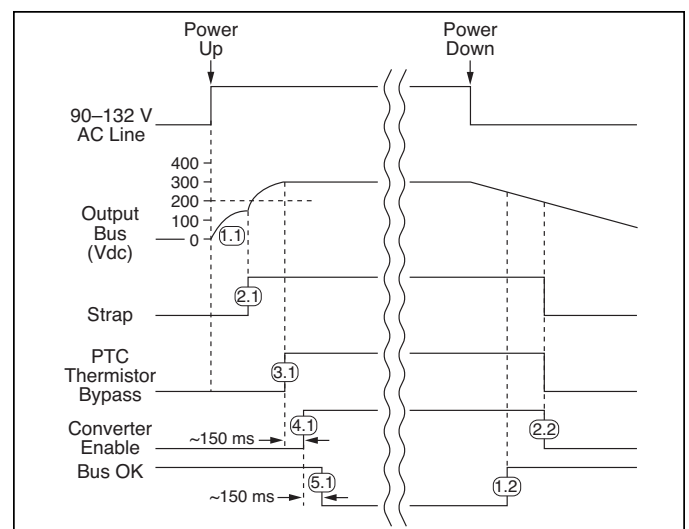

Figure 8 — Timing diagram: power up/down sequence
#### Power Up Sequence. (see Fig. 8):
**Power Down Sequence.** (see Fig. 8) When input power is turned off or fails, the following sequence occurs as the bus voltage decays: